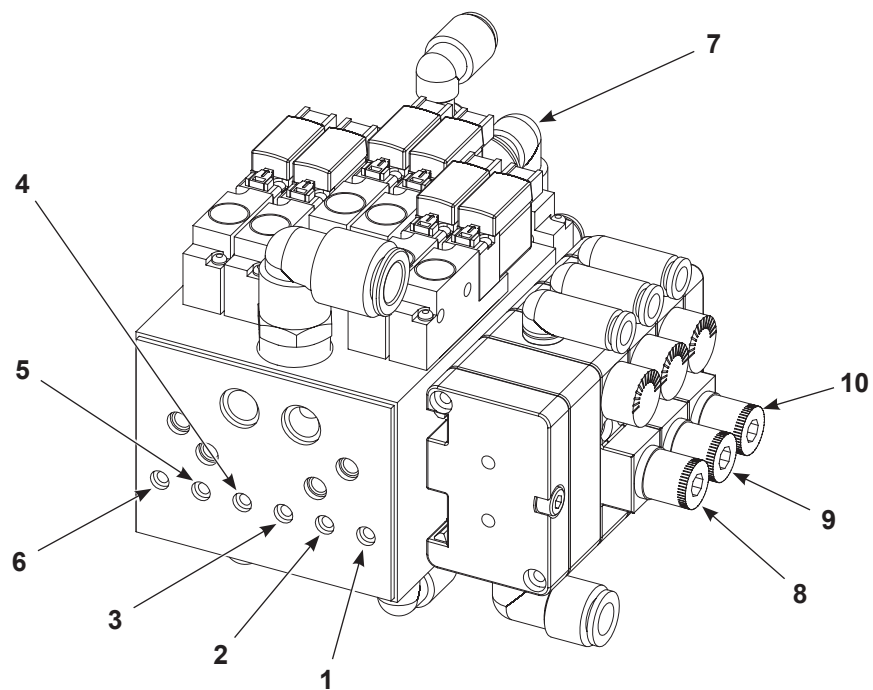

Figure 2-4 Pump Control Manifold
See Figure 2-4. The Encore High-Density powder, Low-Volume air (HD) powder feed pump transports precise amounts of powder from a feed source to a powder spray gun. The pump control manifold controls the air flow in and out of the pump.